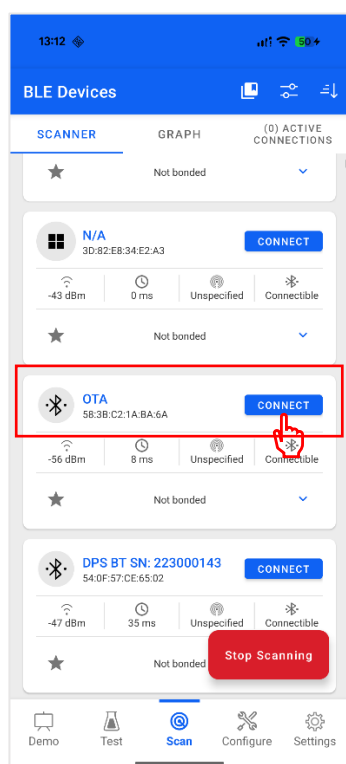

Fig. 9.3 Si Connect
5. Run **Si Connect APP** (fig. 9.3).